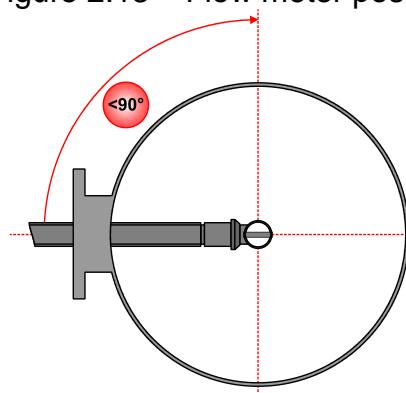

Figure 2.14 - Installation angle
- angle of deviation shall not exceed 90° (see fig.2.14).